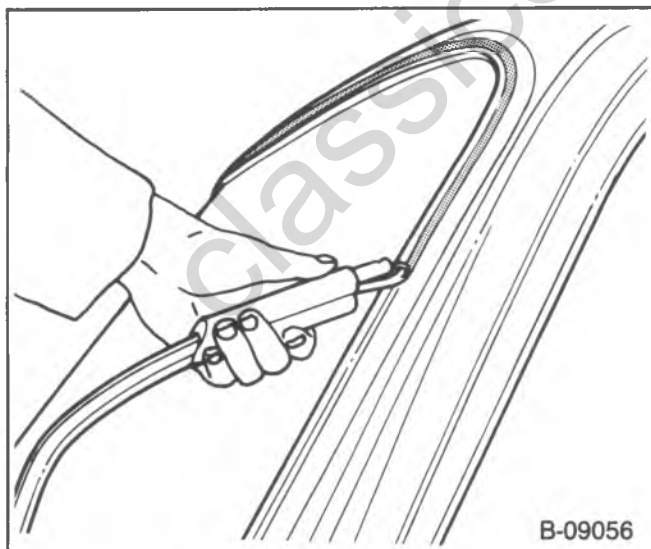

Figure 4—Installing the Reveal Molding
- 10. Reveal molding to the weatherstrip using J-2189-02 (figure 4).
- Push the end of the molding into the groove of the weatherstrip at the center of the bottom edge (figure 4).